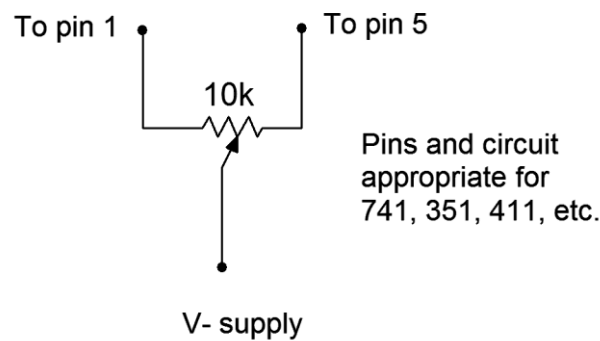

Figure 2
8. Manufacturers normally allow for output nulling through the addition of external circuitry. Modify the circuit by adding the components shown in Figure 2. Using the $47k\ \Omega$ resistor for R_f , adjust the potentiometer to null the output. Also, record the DC output voltage with the potentiometer fully clockwise and fully counterclockwise.